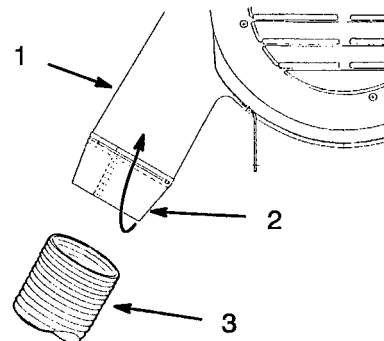

Figure 16
5. Fold seal into top assembly inlet and install discharge tube (Fig. 16). Seal should remain folded inside top assembly inlet to prevent blowout.